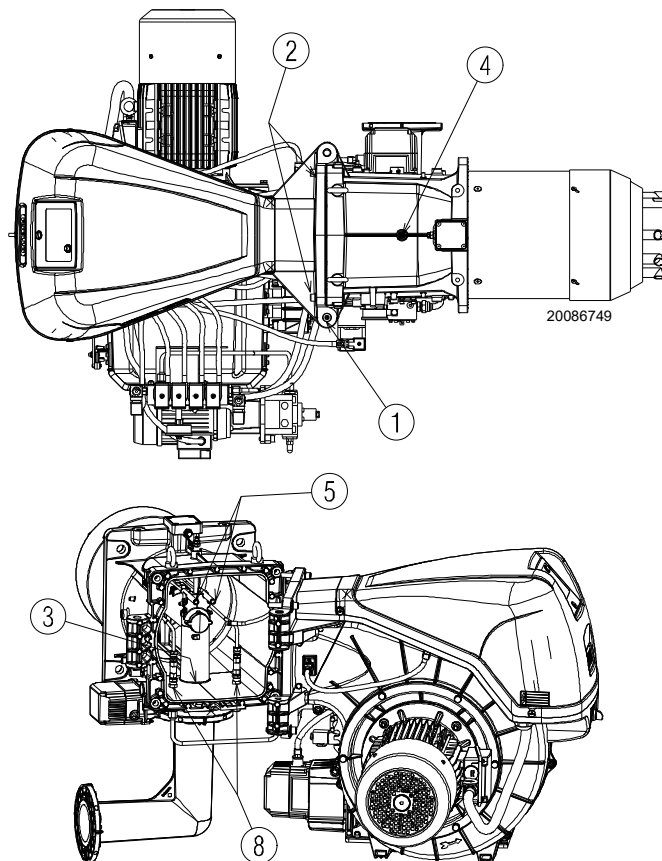

Fig. 15
The burner leaves the factory set for opening to the right, therefore maintaining the pin 1)(Fig. 15) in its housing.
- C** fully open the burner as in Fig. 15;
To open the burner from the opposite side, before removing the pin 1)(Fig. 15), make sure that the 4 screws 2) are tight. Then shift the pin 1) to the opposite side, only then is it possible to remove the screws 2). Disconnect the socket of the maximum gas pressure switch, then proceed as described above at point **C**).